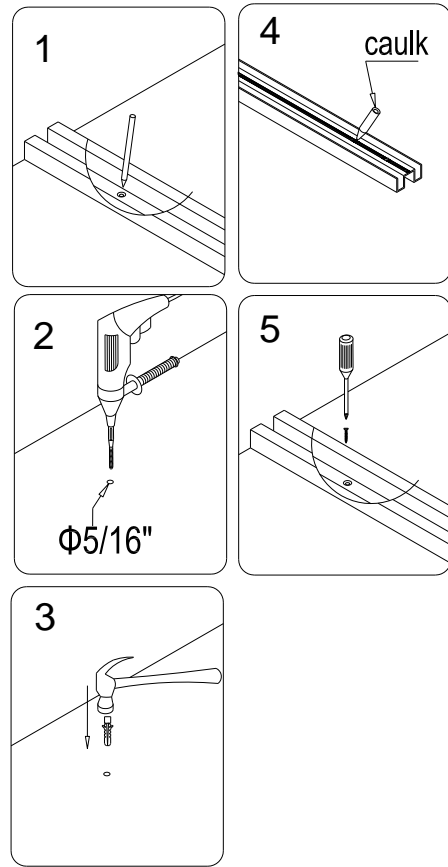

Fig. 2
2. Locate the **Threshold (15)** in the package and place it to the desired position. Mark the holes for drilling on the floor. Remove the threshold, drill the holes in the floor and insert **Small anchors 5/16" (18)**. Apply silicone on the bottom of the **Threshold**, place it back into the chosen position and attach it to the floor with **Countersunk screws ST4.2x30 (16)**. See fig.2 for details.